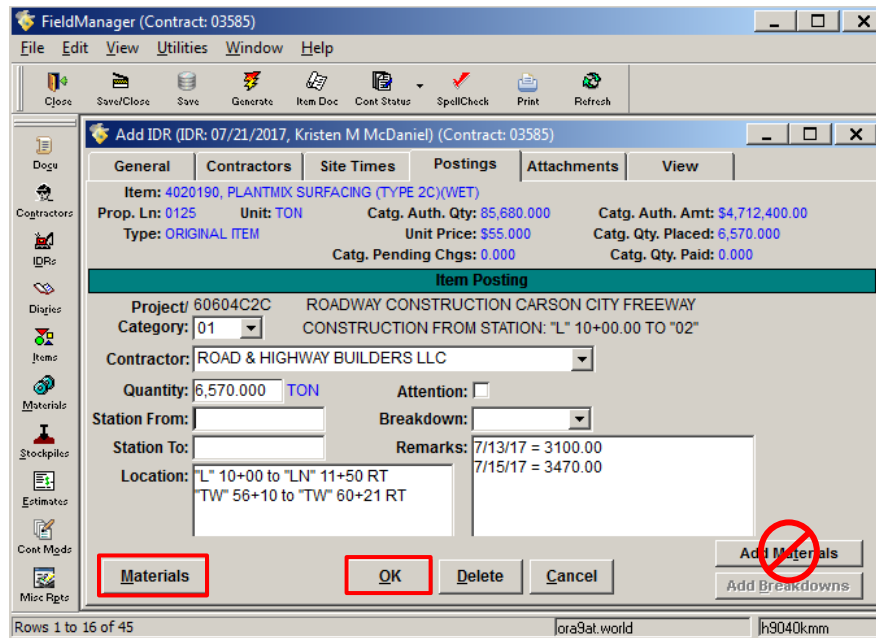

Figure 7-6. Add IDR Window – Postings Tab
4. To complete the Postings tab IDR record, enter the following information in the appropriate fields (Figure 7-6):